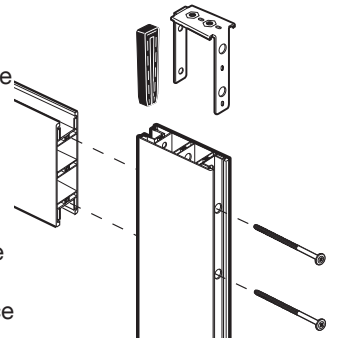

Figure 6
Take one of the Stiles (A), making sure the side with the large holes is facing outward. Insert U bracket (G) into the Top of the stile into the outside channel and the innermost channel. The side of the U clip with the larger holes should be facing the outside edge of the door. The top of the U clip will rest on the top of the stile once inserted. See Figure 6.